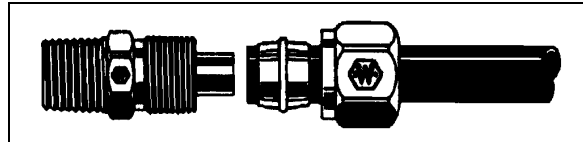

FIGURE 25: HOSE FITTING 12055
**3. NTA-type Plastic Tubing:** Tighten nut hand tight. From that point, tighten with a wrench the number of turns indicated in the chart hereafter (Fig. 25).